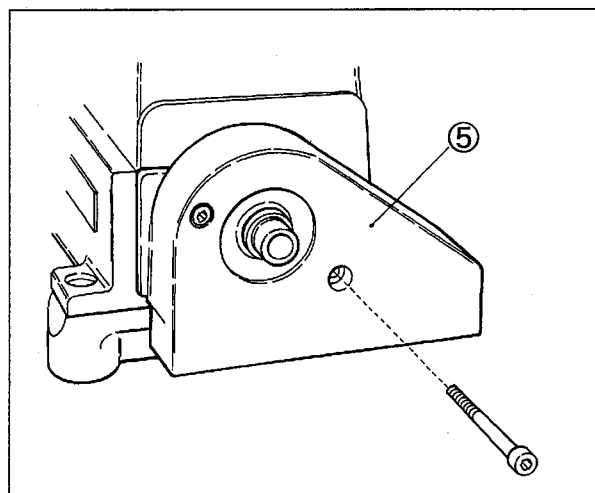

Fig. 16
Set the belt cover ⑤. (Fig. 16)